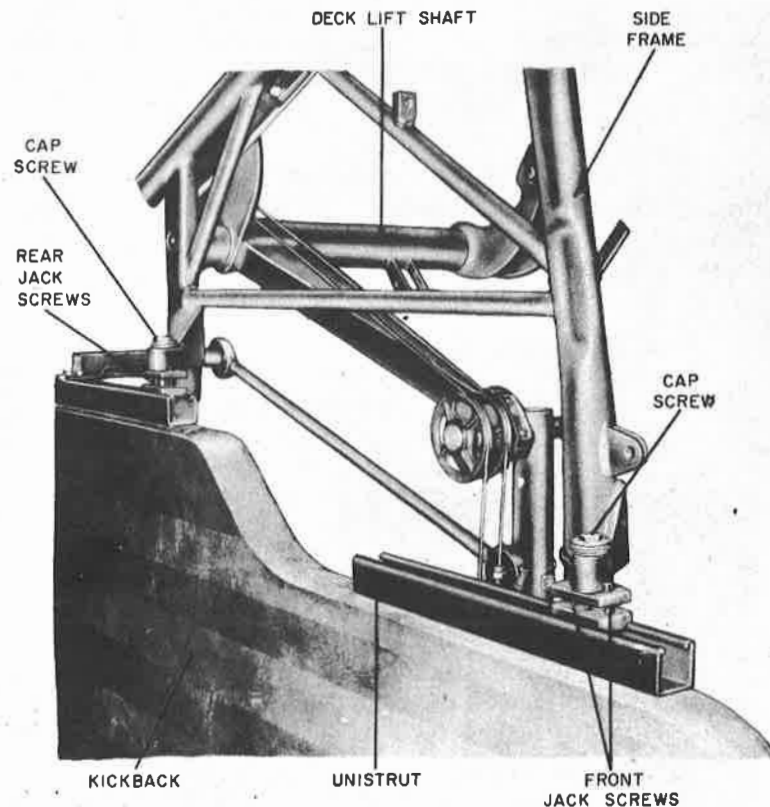

Figure 64. Deck Shaft Adjustment
6. DECK SHAFT ADJUSTMENT. (FIGURE 64)
7. DECK HEIGHT AND LEVEL ADJUSTMENT. (FIGURES 64 and 65)